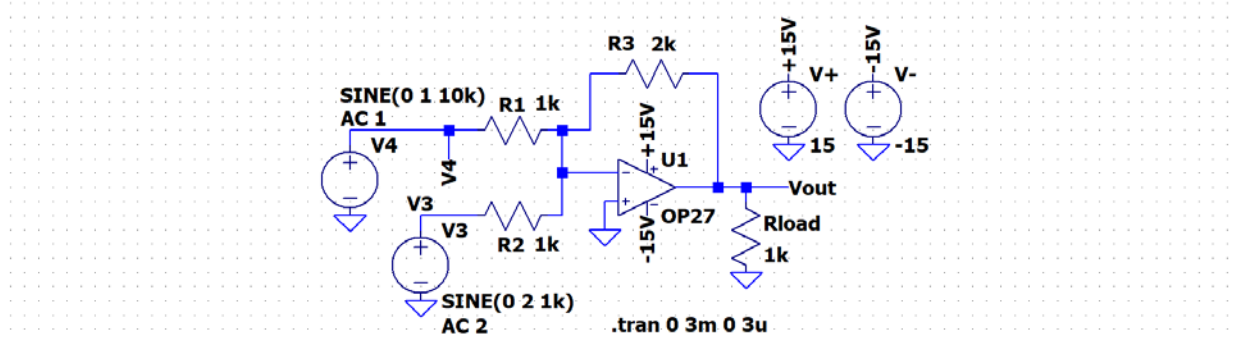

Figure D-3. Note: by using the same label on the power supply and on the appropriate pin of the OP27 we connect the two without visible wires.
- Set up the circuit shown in Figure D-3 in *LTspice*.
- Figure D-3 shows a method to avoid too many wires close to the op amp. By using the same name to label the power source supply and the power pin of the op amp they are electrically connect.
1. Demonstrate that the original adder circuit (figure D-3) works as expected. (3 pt)
2. Demonstrate that the modified adder circuit (modified figure D-3) works as expected. (3 pt).